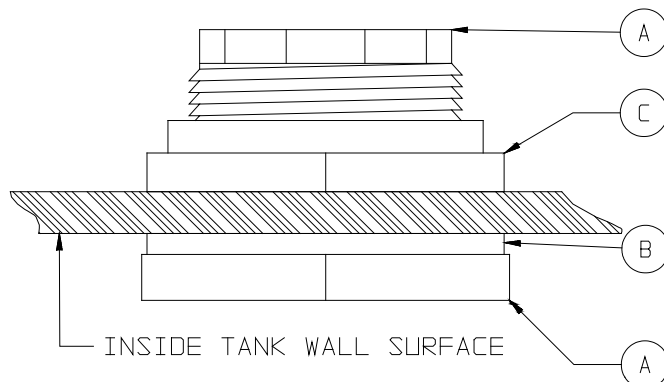

Figure 6.1
6.1.1 Remove the nut (C) from the fitting body (A) and gasket (B). See Figure 6.1 for part identification.